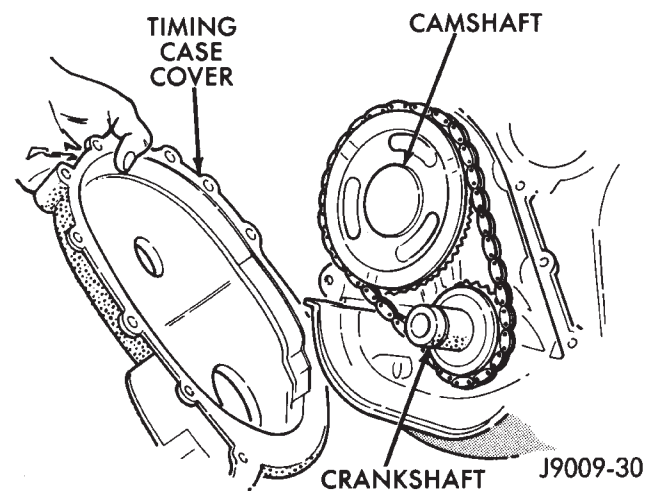

Fig. 11 Timing Case Cover
(5) Install the timing chain, crankshaft sprocket and camshaft sprocket with the timing marks aligned.
(6) Install the camshaft sprocket retaining bolt and washer. Tighten the bolt to 108 N·m (80 ft. lbs.) torque.
(7) Install the timing case cover with a replacement oil seal (Fig. 11). Refer to Timing Case Cover Installation.
(8) Install the vibration damper.